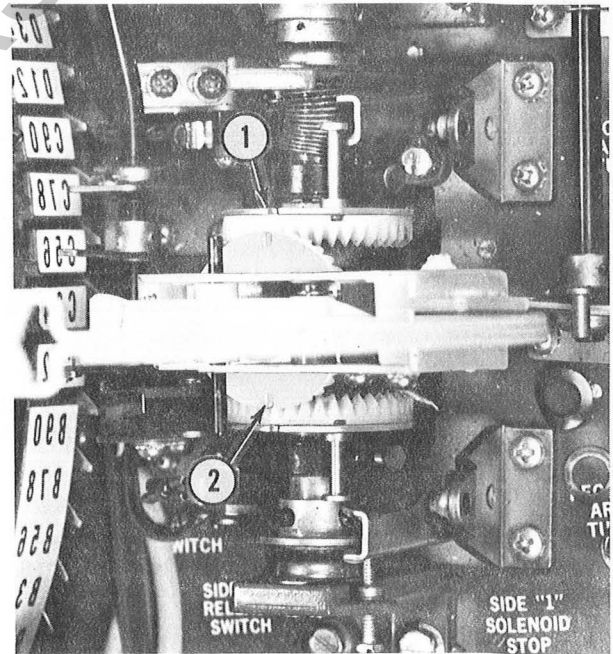

FIGURE 2
6. Select selection A-3. Turn service switch to off position just as record takeout arm starts to raise. Turn service switch to on and then immediately to the off position to place the record takeout arm and its shaft in a vertical position (see Fig. 2).
7. Before removing takeout arm, note raised timing marks on takeout arm's beveled gear and also the timing notches in each of the gear and plate assemblies (see Fig. 2). Remove takeout arm.